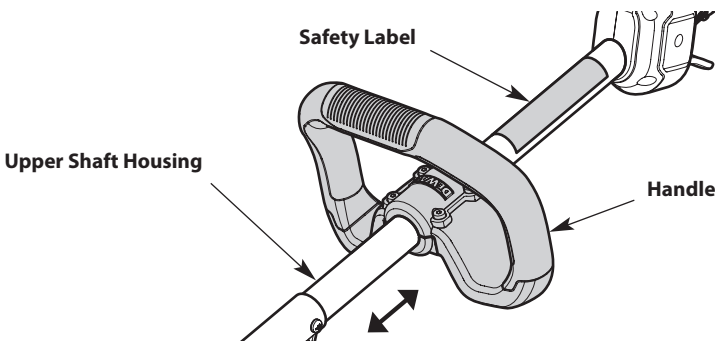

Fig. 9
5. Hold the unit in the operating position (Fig. 17). Move the handle up or down the upper shaft housing to a comfortable location (Fig. 9). Make sure the handle is positioned beyond the end of the safety label (Fig. 9).
2. Hold the unit in the operating position (Fig. 17). Move the handle up or down the upper shaft housing to a comfortable location (Fig. 9). Make sure the handle is positioned beyond the end of the safety label (Fig. 9).